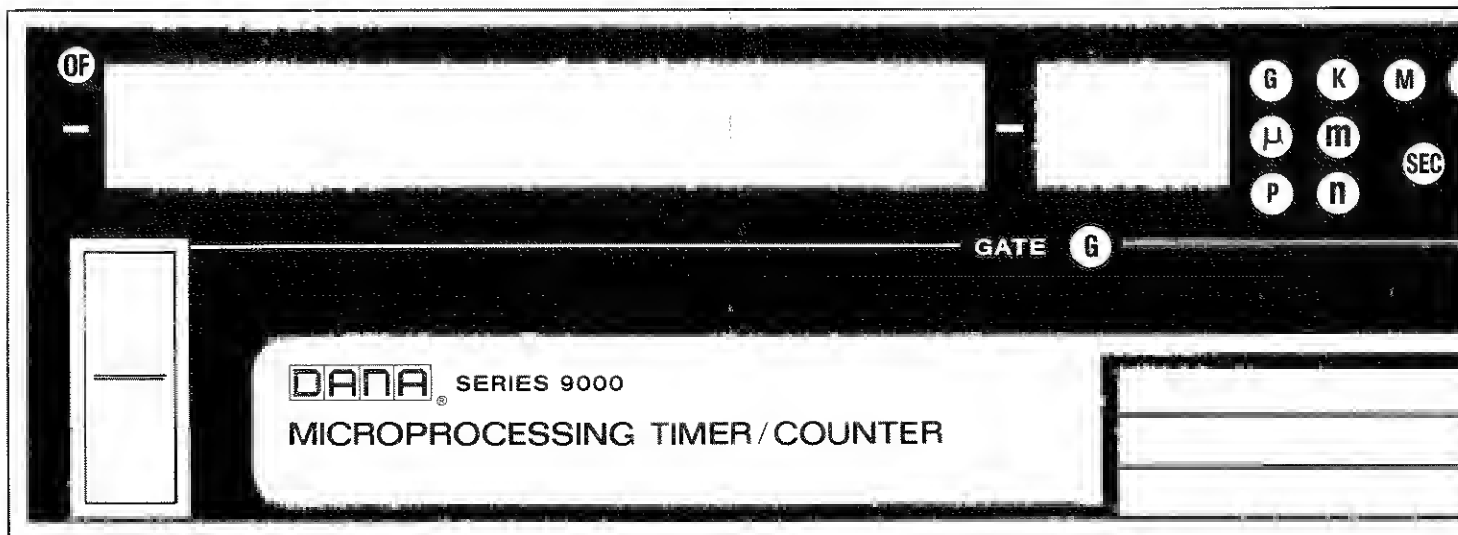

Figure 1.1 - Series 9000 Microprocessing Timer/Counter
1.1.1 This manual covers the installation, operation and calibration of the Dana Series 9000 Microprocessor Timer/Counter (figure 1.1).